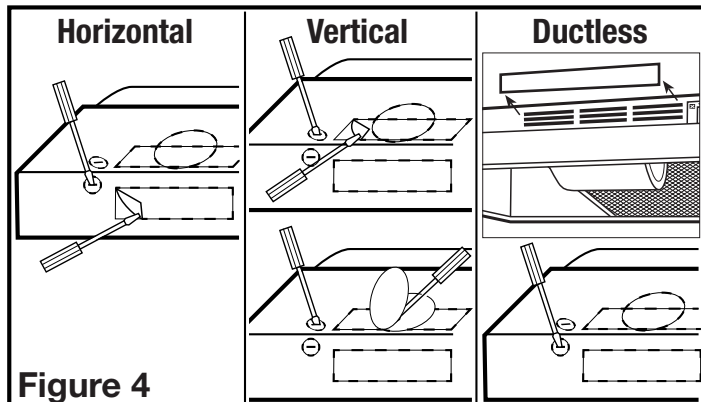

Figure 4
- 2a. **Horizontal or Vertical** - Remove the square knockout by inserting a screw driver under the edge and break the tabs holding it in place. Peel back with pliers (**Figure 4**).
- 2b. **Ductless** - Remove the hood's front louver cover, exposing the front air slots. To remove louver slide to one side and lift the trailing edge. Do not use a screwdriver or any other object that could scratch the hood (**Figure 4**).
- 2c. **7" Round** - Remove the round knockout located on the top of the hood by inserting a screw driver under the edge and break the tabs holding it in place. Peel back with pliers (**Figure 4**).
3. Determine where the electrical service will enter the hood and remove the appropriate electrical knockout by inserting a screw driver into the slot and rocking back and forth until the knockout comes loose (**Figure 4**).